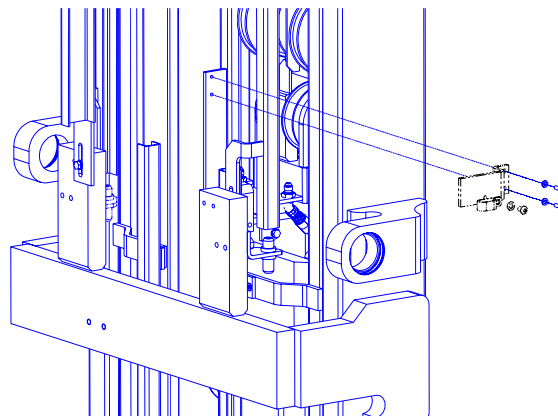
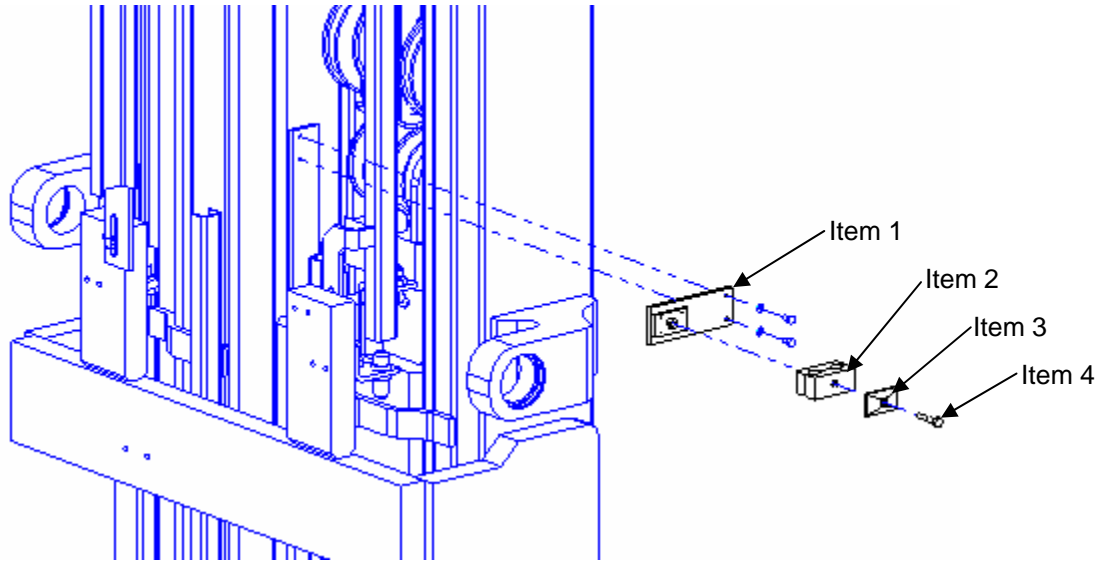

Figure 1
Figure 2
1. Replace existing bracket, hose clamp, flat washer, and capscrew (see Figure 1) with updated bracket, clamp, cover plate, and bolt (items 1, 2, 3, & 4) shown in Figure 2. Clamp (item 2) should be aligned with pad on bracket (item 1) before tightening cover plate and bolts (items 3 & 4). M6 hardware for mounting bracket is to be reused and should be torqued to 8Nm (71 in-lbs).